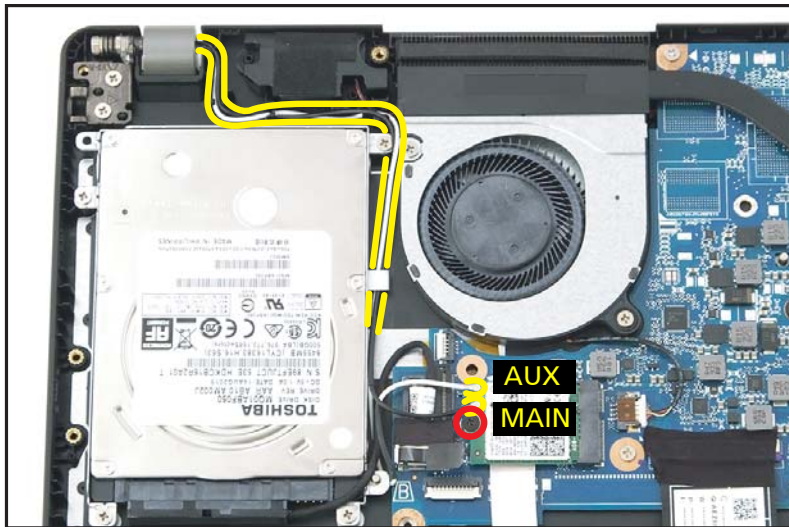

Figure 1-10. WLAN Module Removal
2. Disconnect the AUX antenna cable (white-color) from the WLAN AUX pin (Figure 1-10).
3. Disconnect the MAIN antenna cable (black-color) from the WLAN MAIN pin (Figure 1-10).
4. Unroute the WLAN antennas cables from the guides on the top assembly (Figure 1-10).
5. Remove one (1) screw securing the WLAN module in place (Figure 1-10).